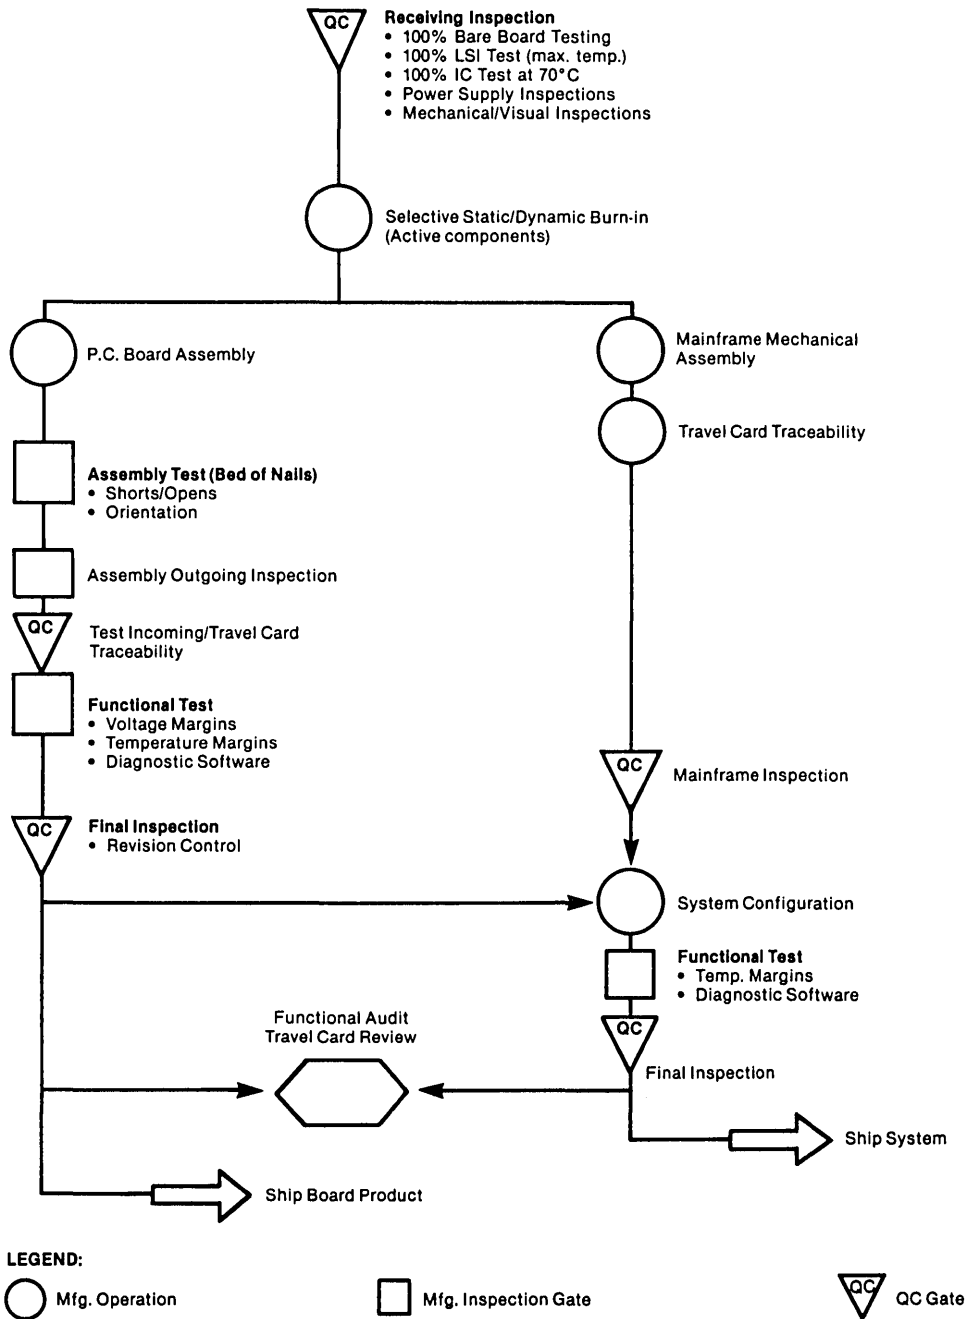

Figure 1. QUALITY CONTROL TESTING FLOW CHART
The Quality Control Testing Flow Chart shown on Figure 1 defines the exact stages contained in the production process. Internally manufactured LSI components undergo 100% testing at maximum specified operating temperatures as well as strict quality controls defined to assure high quality and reliability. Components not designed and manufactured by Western Digital are also 100% screened during incoming inspection at 70°C. The tests performed include selective active component burn-in performed at 125°C for 160 hours to insure guaranteed levels of reliability. This 125°C accelerated testing eliminates defects that cannot effectively be accelerated by burning-in boards and systems which have temperature limitations. Key quality control procedures include:
- The product assurance Department continuously monitors the internal and external manufacturing flow (shown in Figure 1) and issues process control reports displaying detailed data and trends for the associated areas.
- Quality audits and gates are located throughout the manufacturing process in order to assure a stable process and thus, a quality product to our customers. Figure 1 illustrates the manufacturing/screening/inspection flow diagram and identifies the steps as they relate to the production of LSI devices.